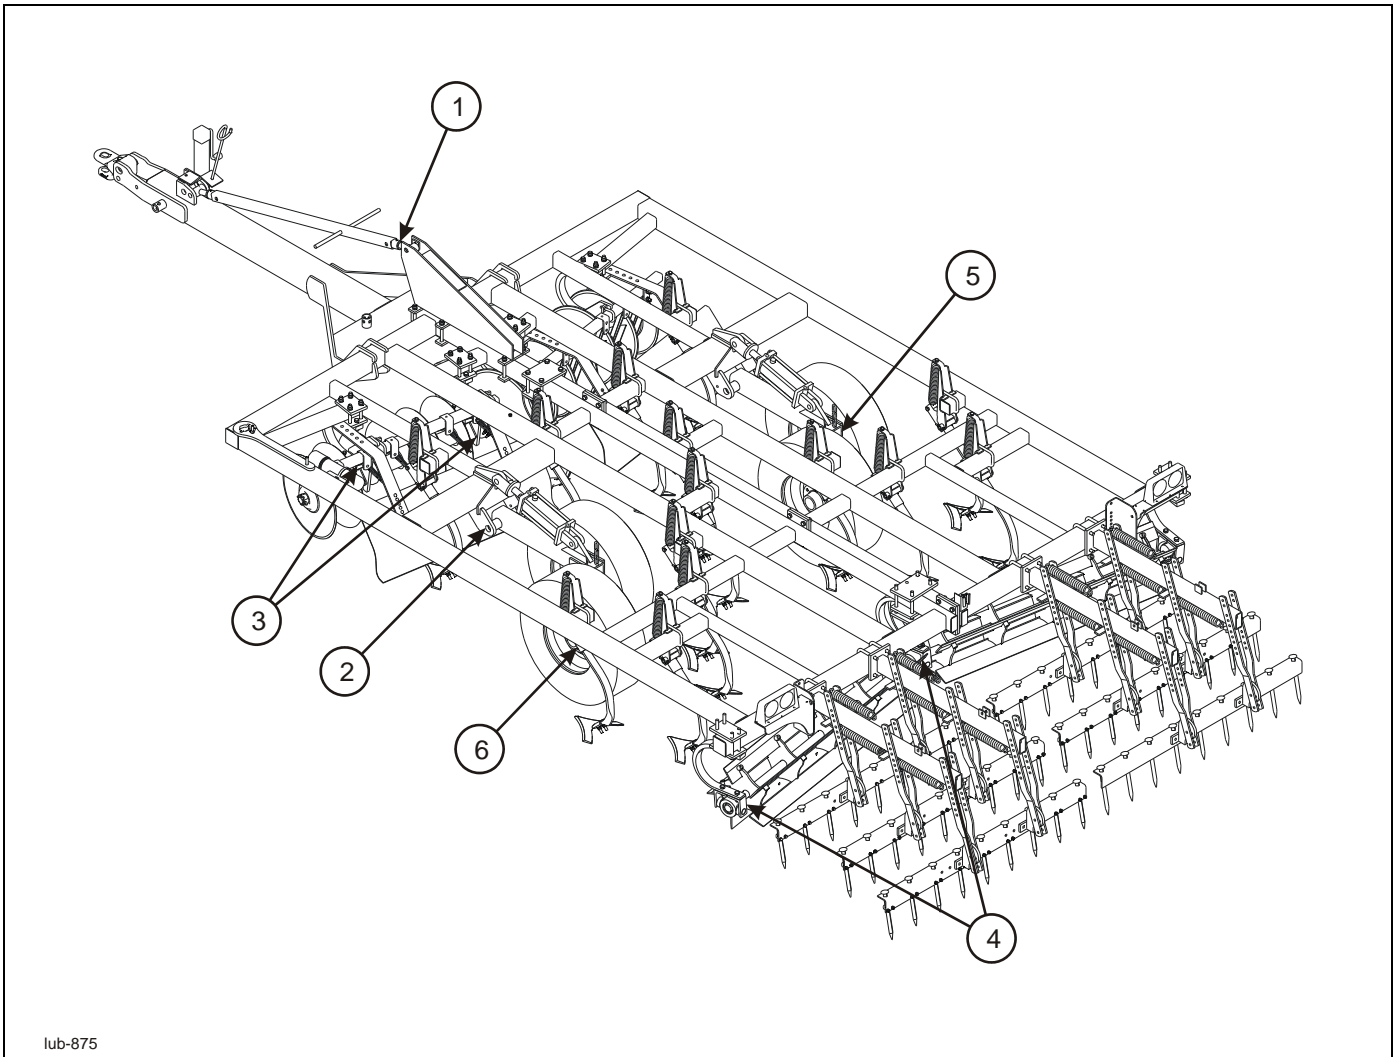

Figure 4-6: Lubrication Points
6. Lubricate the machine as shown in "**Lubrication**" on page 4-9 (**See Figure 4-6.**)
1. **Table 4-1 and Figure 4-6** specifies the number and the period of lubrication points on the **875 Series Tilloll**. Proper maintenance of your machine will, under normal operating conditions, help to keep it operating at or near its peak performance for an extended period of time. Proper maintenance is also a condition of keeping your warranty in good status.